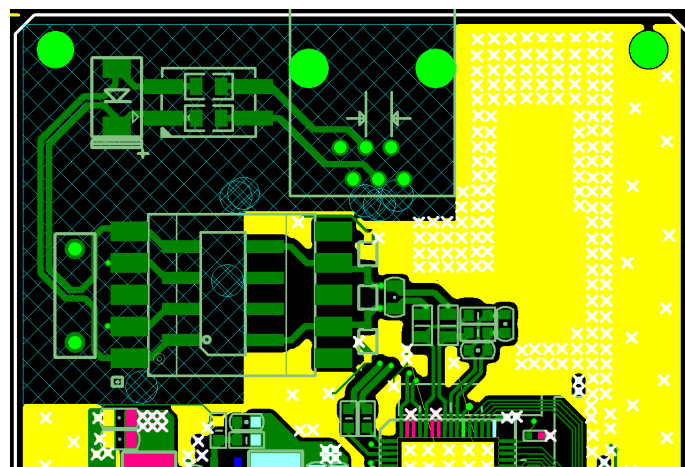

Figure 3.6: Line Driver Top Layer Layout.
- Hybrid schematic and line driver circuit must be covered by ground plane as shown in Figure 3.6 and 3.7 (the gap between circuit and ground plane should be under 12 mil).
- The trace width needs to be 20mil or above and need shortest routing, as show in Figure 3.6.